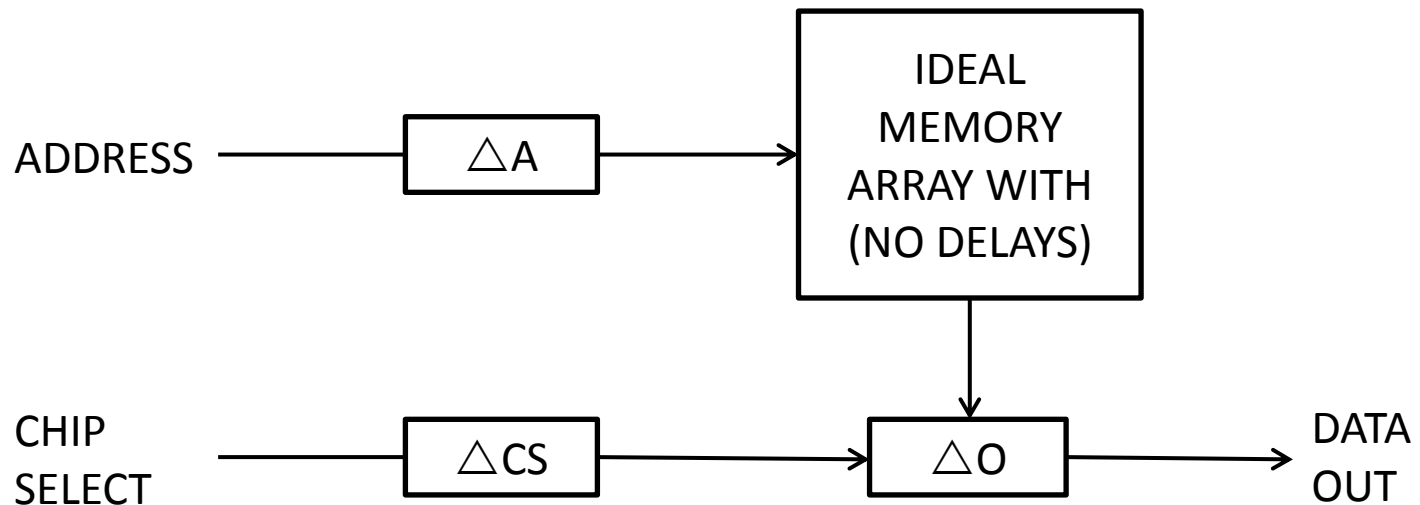

Figure 2.6.1: Lumped delay memory model for a read operation
- **Figure 2.6.1 depicts a model of an ideal SRAM (with no delays in signal propagation for a read operation).**